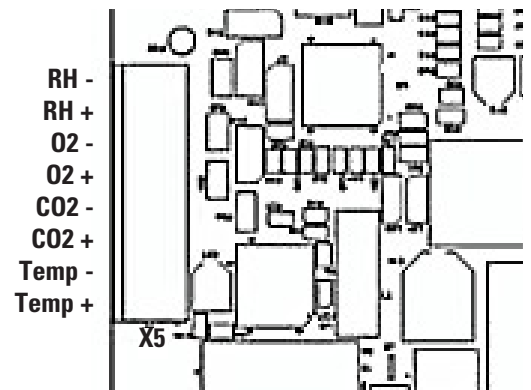

Figure 7-5. Analog Output Board
3. Remove the cover panel and carefully slide out electronics drawer and locate the Analog Output board (Figure 7-5).
5. Strip the ends of each conductor and wire to the appropriate terminals of connector X5 on the analog board (Figure 7-5).